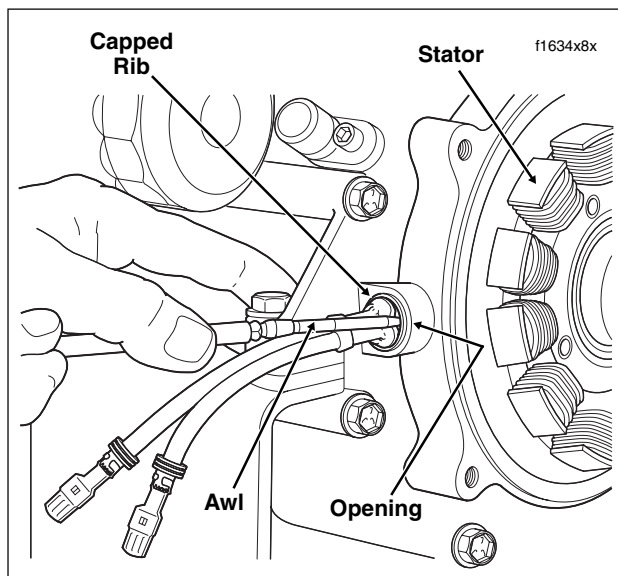

Figure 3-14. Remove Grommet From Crankcase
- Using point of awl, carefully lift capped rib on grommet away from crankcase and then insert into bore between grommet and casting. See Figure 3-14. Tilt awl slightly squirting isopropyl alcohol or glass cleaner into opening. Repeat this step at one or two other locations around grommet.